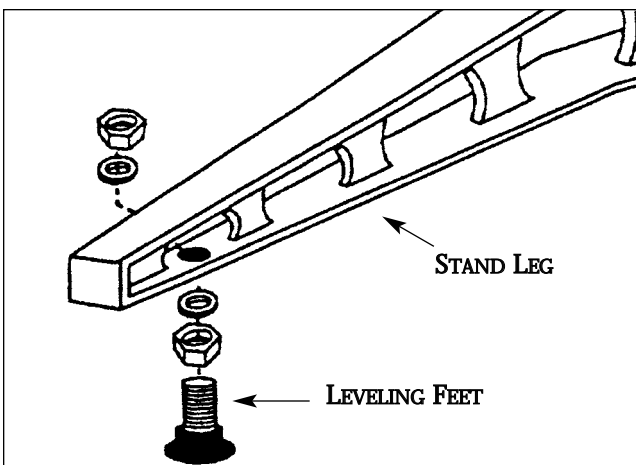

Fig. 2. Leveling feet and mounting hardware.
1. Unbolt the machine legs from the shipping pallet. Install the rubber-based leveling feet or casters on legs (Fig. 2). The feet and mounting hardware are in the STOP bag packed with your machine.